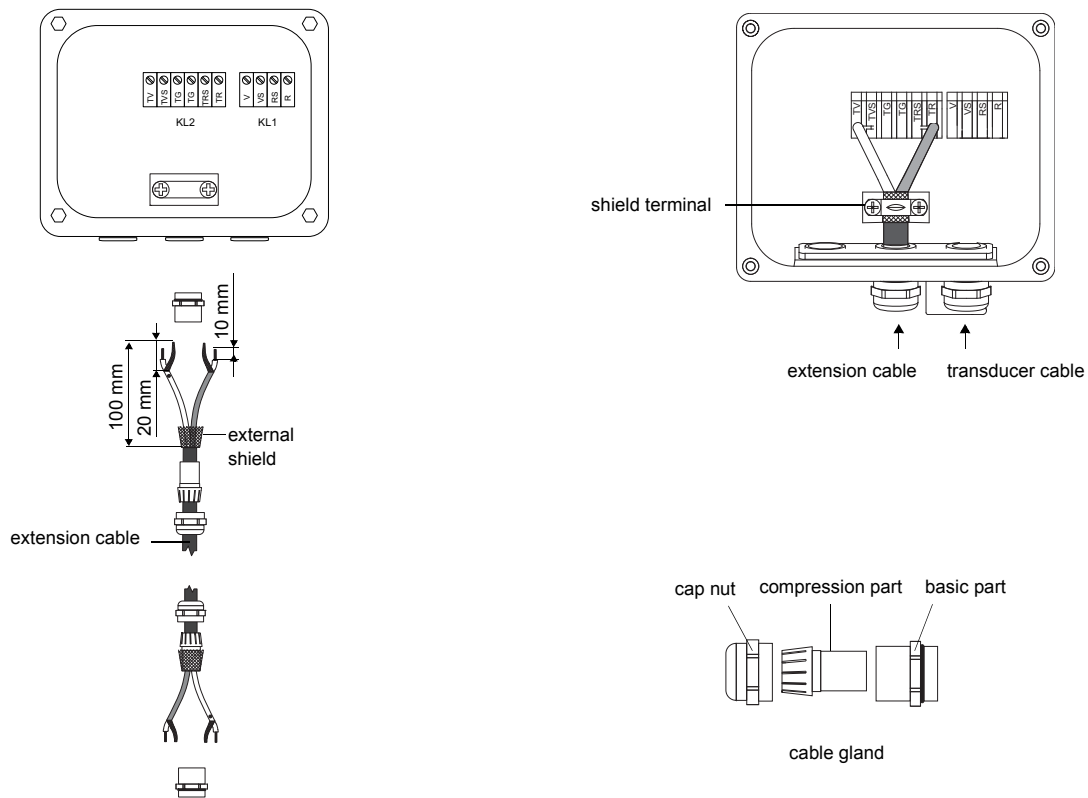

Fig. 6.12: Connection of the extension cable to the junction box
- Remove the blind plug for the connection of the extension cable (see Fig. 6.12).
- Pull the extension cable back until the brushed back external shield is below the shield terminal (see Fig. 6.12). The extension cable must remain completely insulated up to the shield terminal.
- Connect the extension cable to the terminals of the transmitter (see Fig. 6.12 and Tab. 6.7).